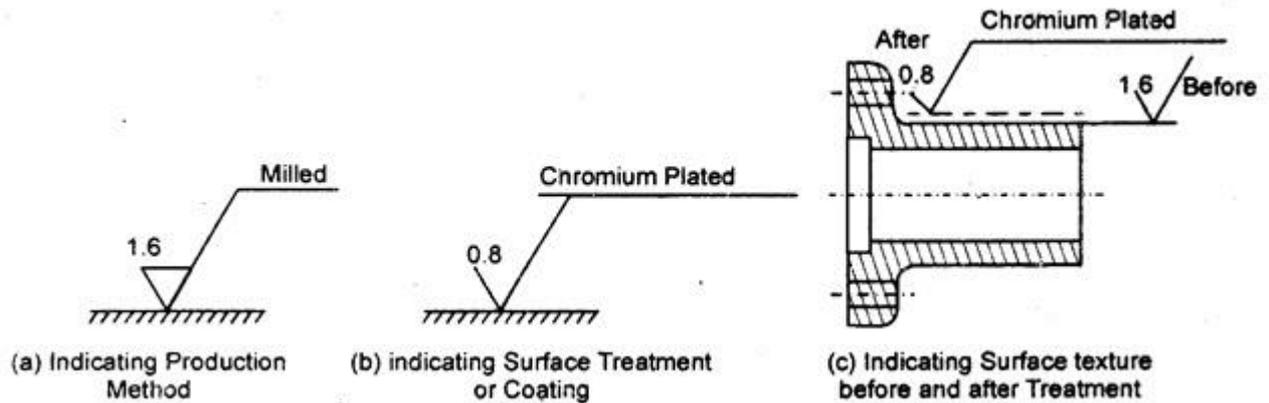

Fig. 1.12 Use of notes with surface texture symbol
5. If it is necessary to define surface roughness both before and after treatment should be explained in a suitable note or in accordance with Fig. 1.12.